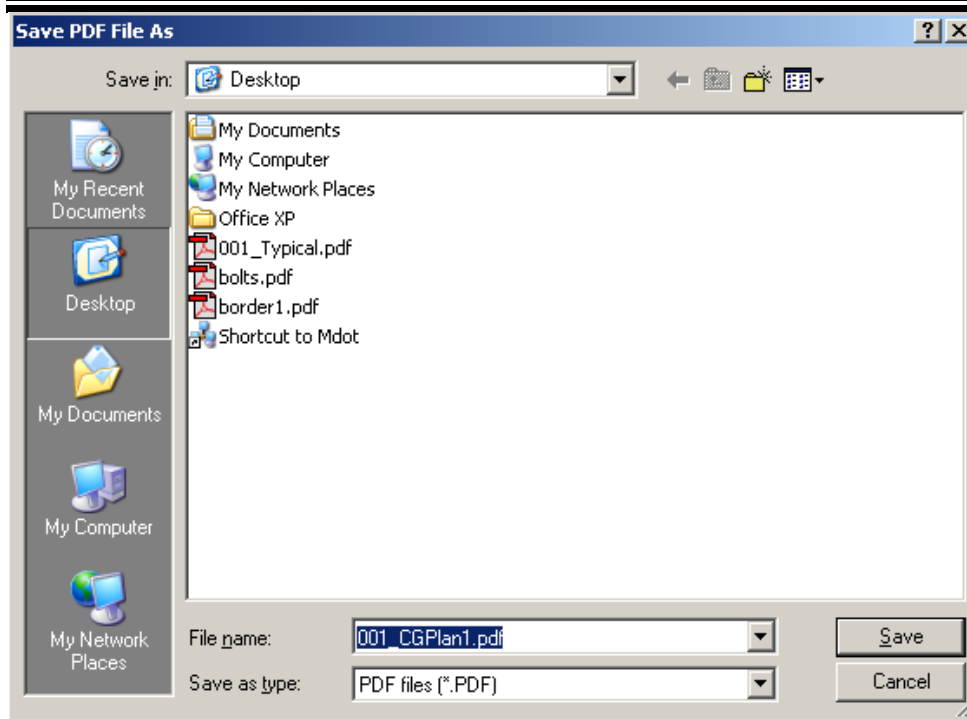

Figure 15-6: Save PDF File As
- ♪ Take notice that in the **File name:** area (Figure 15-6), by default the file to be saved will have the same name as the MicroStation file that you have opened.